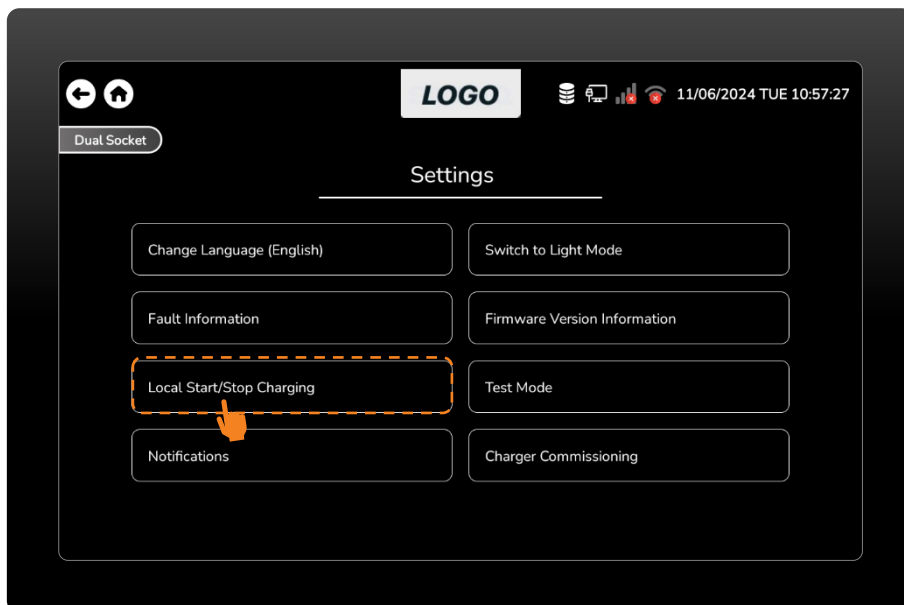

Figure 12 Press the Local Start/Stop Charging.
- Press the “Local Start/Stop Charging” option. (Figure 12)